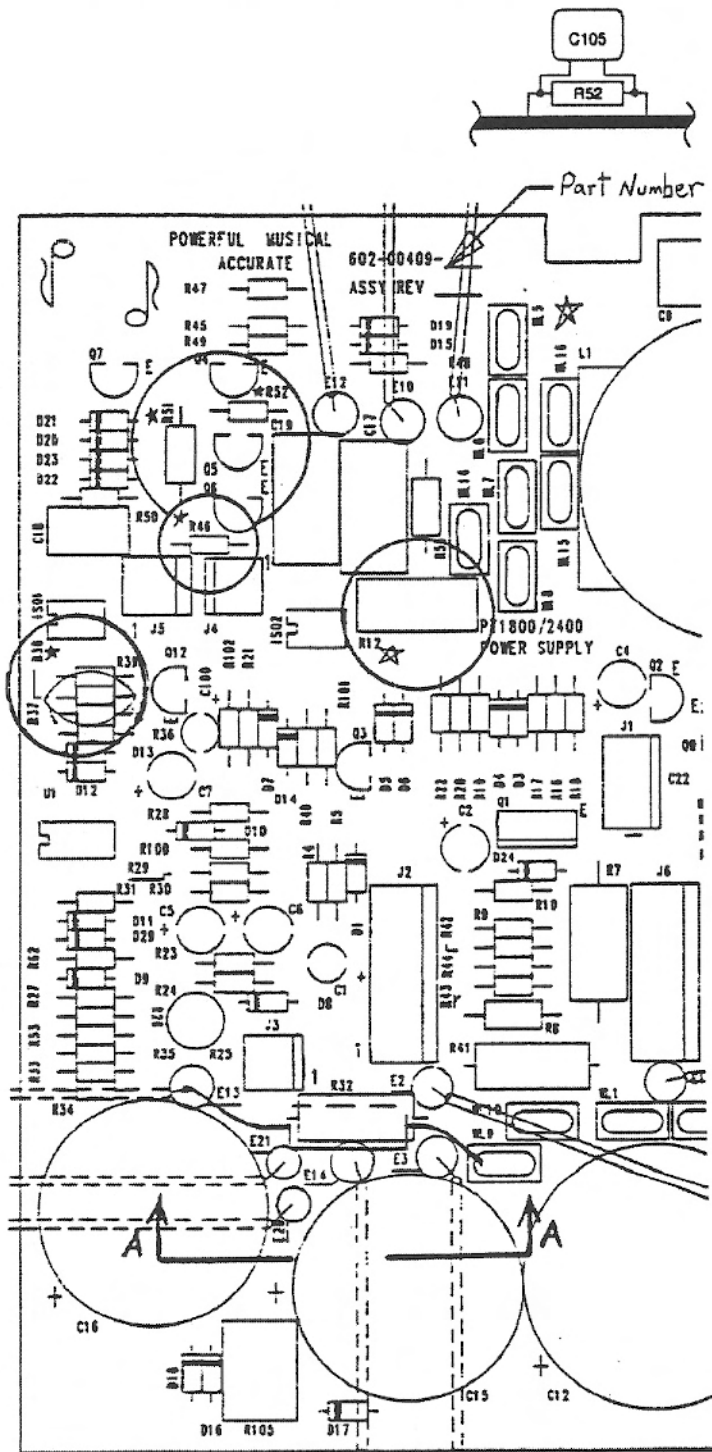

Figure 1. 602-00409-___ Power Supply Board
1. Locate R52 on each power supply board (see Figure 1). Install a 0.22 μ F/100V polyfilm capacitor (Carver P/N 204-00030-00) in parallel across R52.